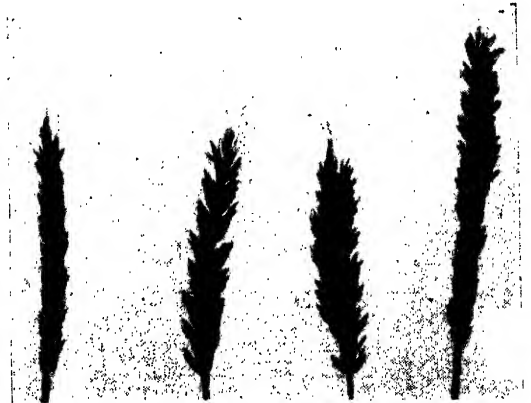

Fig. 8.—Frost Damage at Flowering Stage.
4. A wide open appearance of the glumes (see Fig. 8). Heads showing this condition suffered frost injury whilst the glumes were open at the flowering stage.